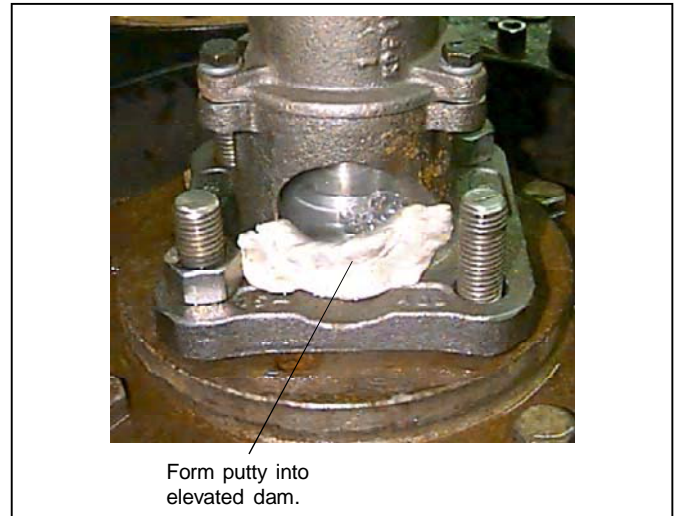

Figure 20 - Blocking Water Drainage With Putty
4.5.1.2 Create a dam at the side port or plug drain holes of the valve body with putty (Fig. 20), or a similar material.